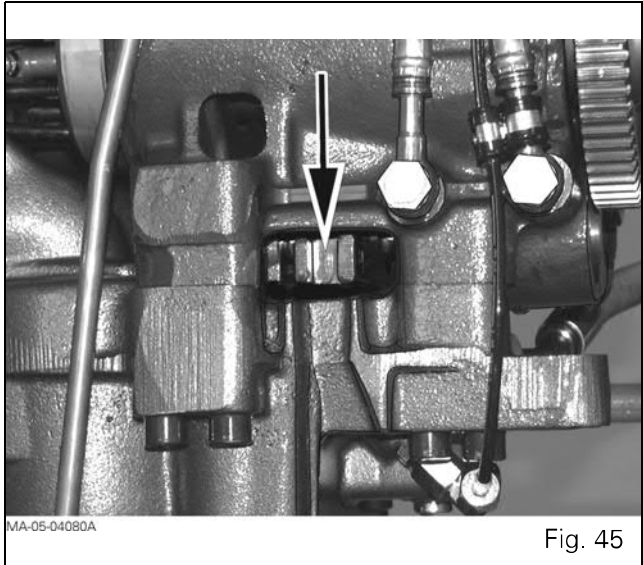

Fig. 45
45. Set the I-II range selector (see arrow) to Neutral (middle position). (Fig. 45)